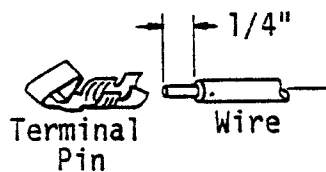

Figure 5-20. Terminal Pin Installation
A. Cable Preparation (Figure 5-20)
4. Referring to Figure 5-20, crimp a terminal pin (Bag 3) onto the tinned ends of the 20 wires. Solder along the crimped edges, if necessary, to insure a good connection.